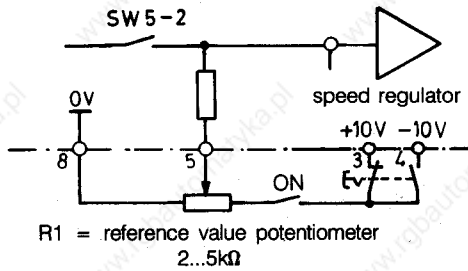

Fig. 5.4.2.1
- Connection as in Fig. 5.4.2.1.